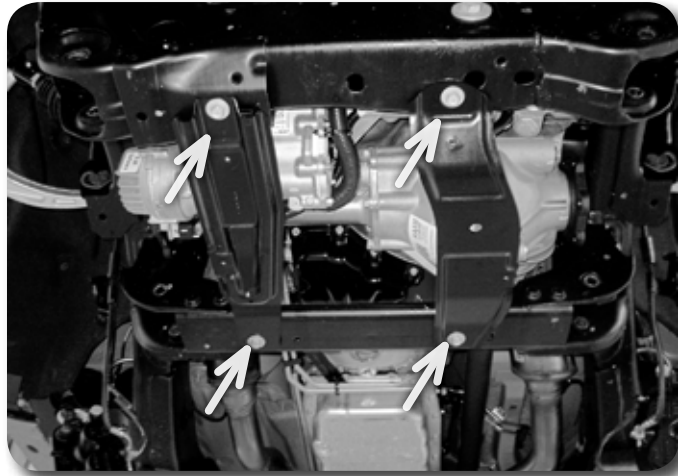

Figure 11
19. Remove the crossmember struts. **Figure 11**